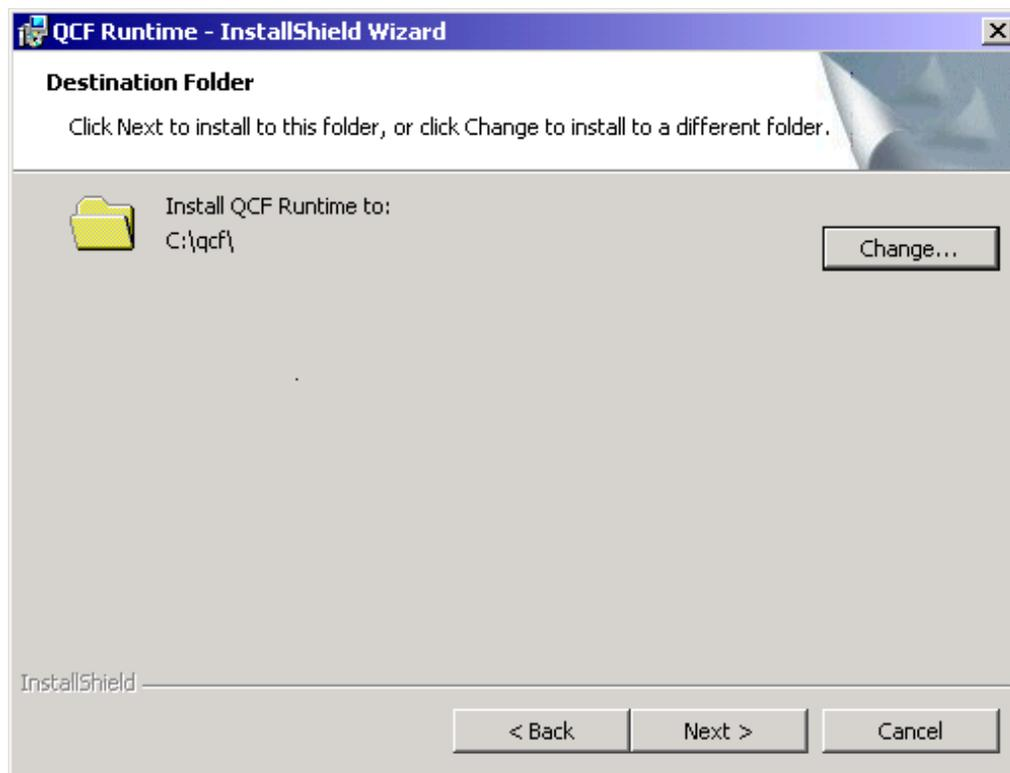

FIGURE 173. Updated Extermination Folder window
15. The Destination Folder window appears again, but this time, with the proper directory as in Figure 173.